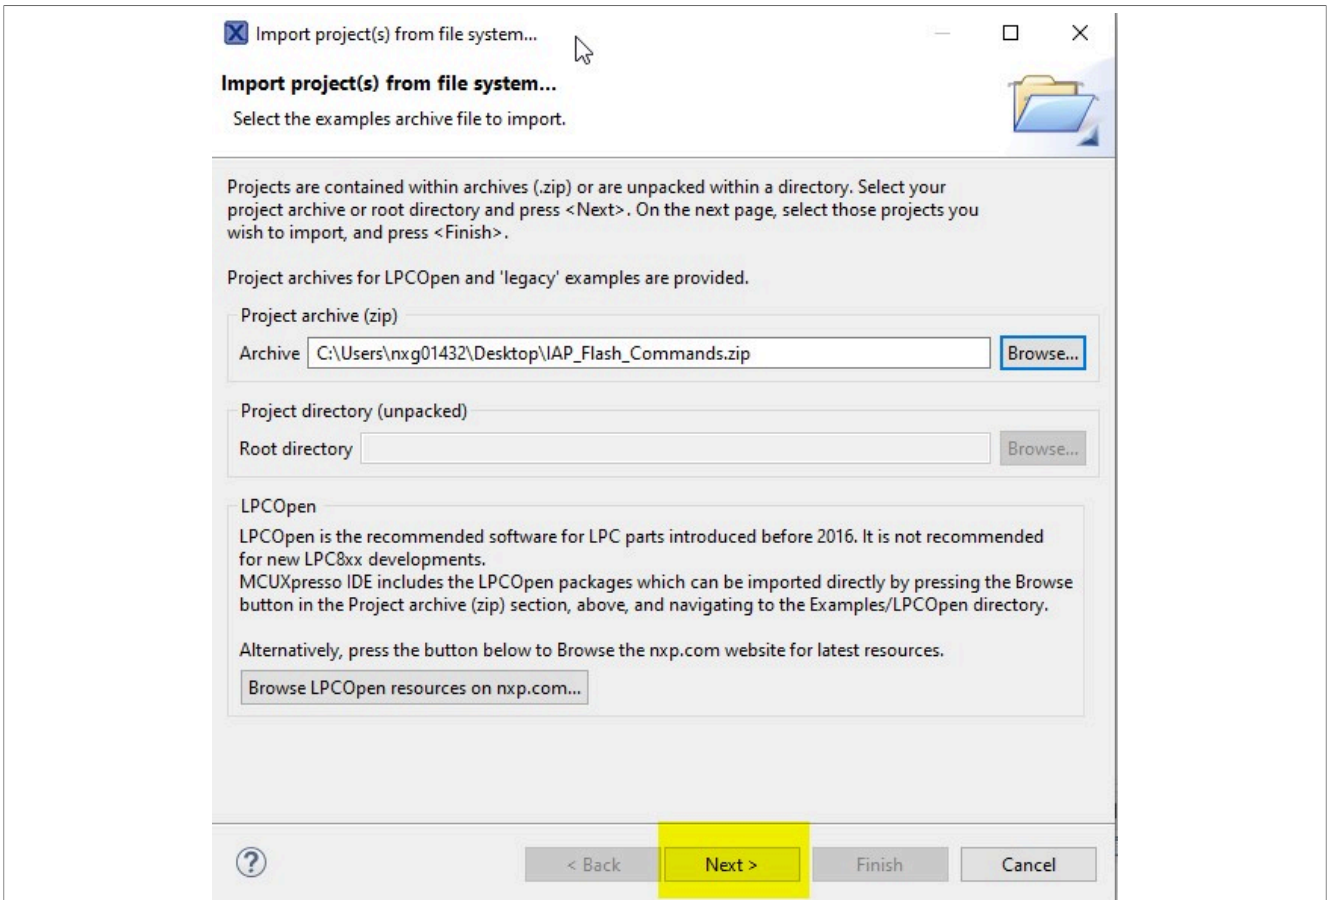

Figure 6. Importing IAP_Flash_Commands.zip
6. Click **Next**, see Figure 6.